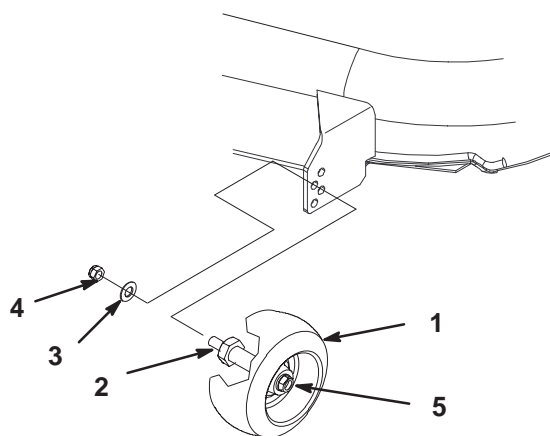

Figure 18
1. After adjusting height-of-cut, remove nut and washer while holding stud with wrench (Fig. 18).
Note: Do not remove the wheel nut and washer (Fig. 18).
2. Select a hole position so the gage wheel is a minimum of 3/8 in. (9.5 mm) off the ground for the height-of-cut to be used (Fig. 18).
3. Reinstall the stud nut and washer (Fig. 18).